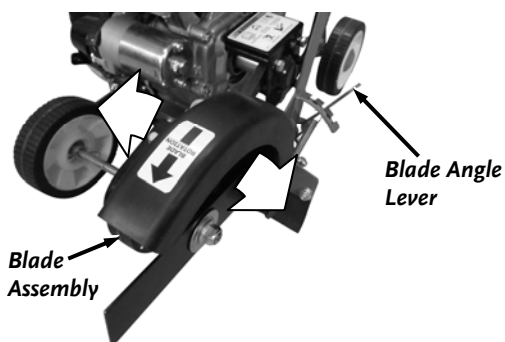

Figure 15
1. Pull the Blade Angle Lever out of the slot and insert it into the desired angle slot (*Figure 15*).